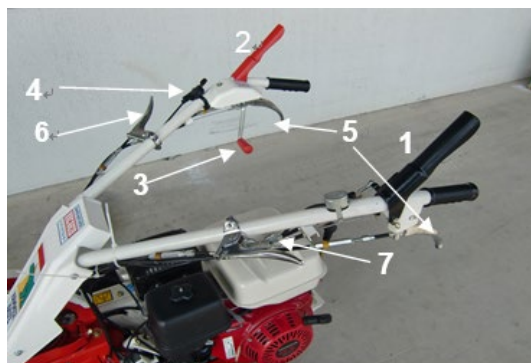

Figure 6
- Push down the blade clutch lever (2, Figure 6) then engage the blade tension lever (3, Figure 6) slowly.